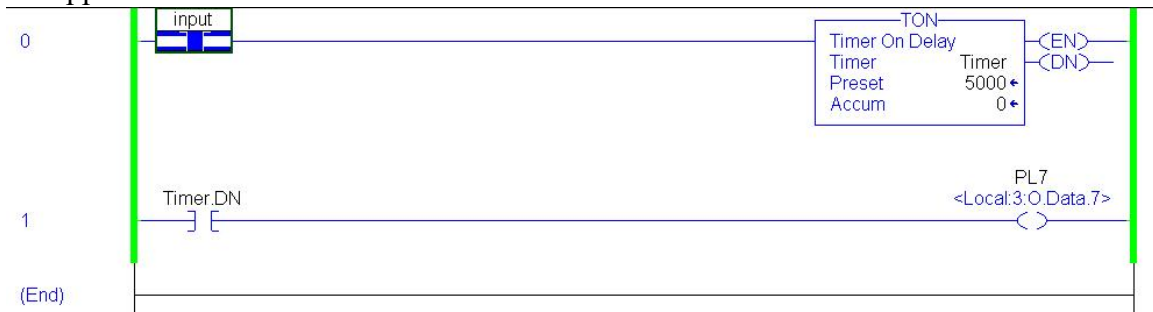

Figure 2-A. Ladder program.
3. Using RSLogix / Studio 5000 software configure a Ladder Logic file as shown in Figure 2-A - Save File as Module8.ACD - Download the file to the ControlLogix processor – Place the ControlLogix processor in RUN mode